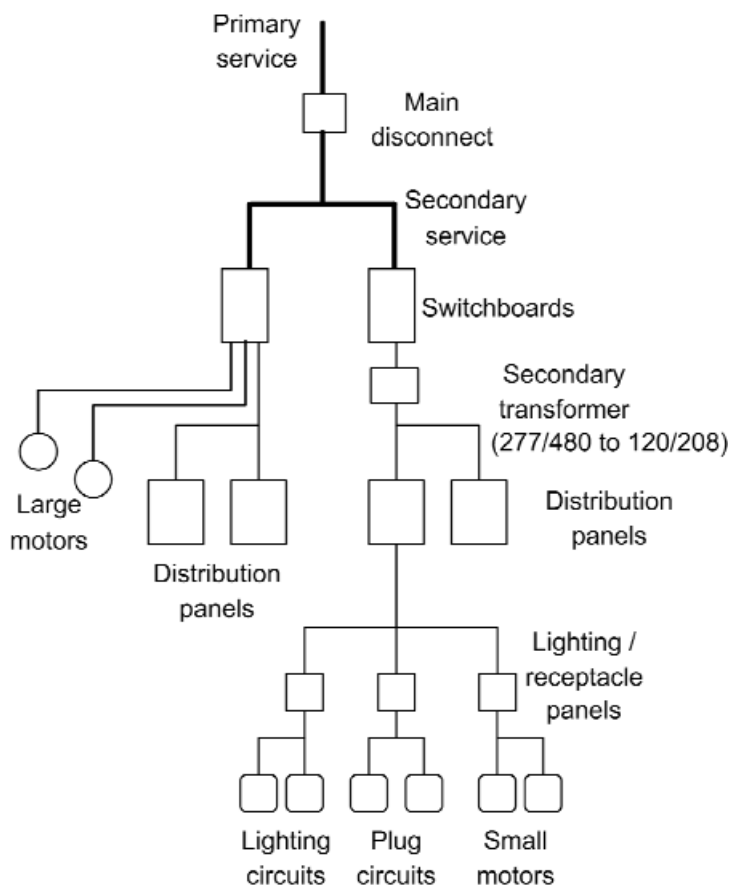

FIGURE 4.9 Typical commercial building electrical distribution system. (Adapted from Stein and Reynolds)
The majority of large HVAC equipment is powered by alternating current (AC). The alternating part of this term is appropriate: the voltage and current in AC circuits flips back and forth 60 times per second. The primary service enters the building at 120/240 VAC if single phase, or 120/208 VAC, 277/480 VAC, and higher if three phase. The first number is the voltage between any single phase and ground and the second number is the voltage between any two phases. In commercial buildings, electricity enters a building through the primary service feeder (as shown in Figure 4.9) and then passes through a series of transformers, switchboards, and panels before arriving at the load. The HVAC equipment is usually powered directly from the switchboards. If a switchboard is devoted to just HVAC equipment, it is called a *motor control center*.